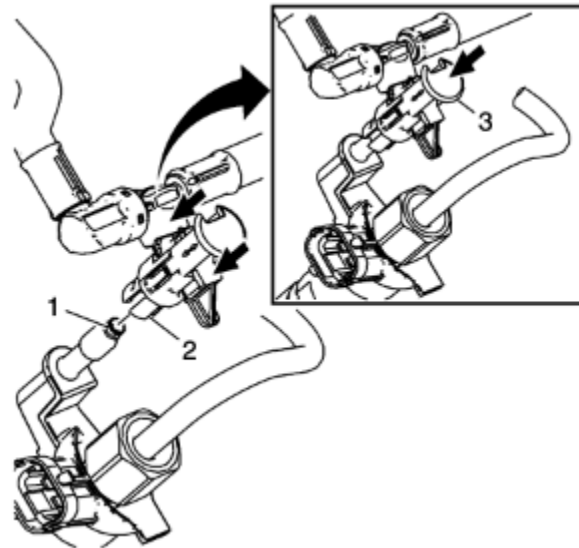

Fig. 102: Injector return fitting installation
- f. Inspect the o-rings (item 1 in figure 102) on the injector return ports for damage and replace if necessary. If the locking tabs (item 2 in figure 102) are damaged, replace the fuel injector return assembly.
- g. To install the return line assembly, ensure that the cylindrical locking sleeve (item 3 in figure 102) is in the upward position, then push the fitting onto the injector return port on the injector assembly. Press down on the locking sleeve until it locks in place. Repeat for all eight injectors.